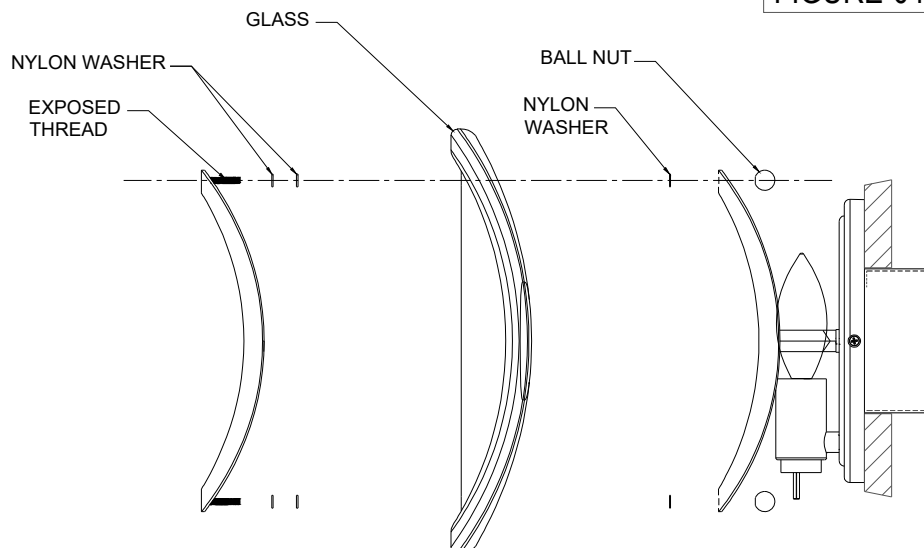

FIGURE-05
7. Install the glass on the fixture by inserting the exposed thread of the oval ring through the glass and unto the fixture, and secure it with ball nuts. NOTICE: Nylon washer must be used between each sides of the glass holes as seen in the figure. (SEE FIGURE-05)